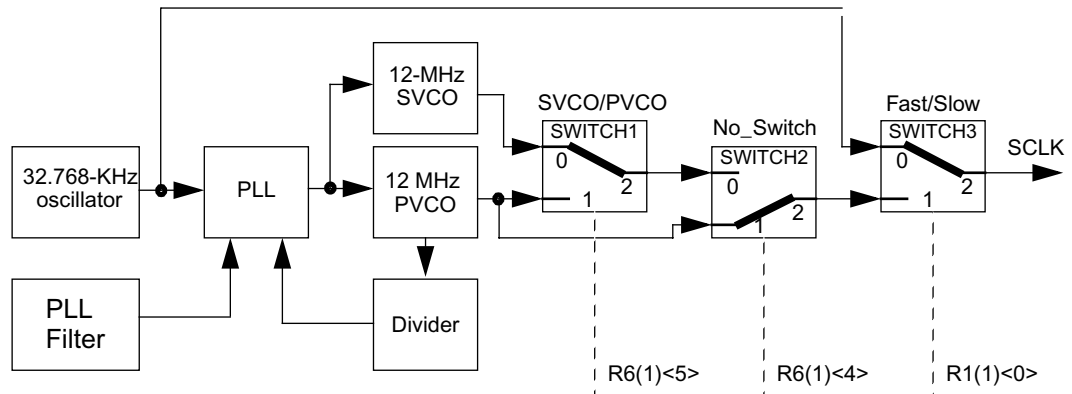

Figure 8 Clock Switching Block Diagram (8 -16 MHz)
The clock switch control register R6(1) defines the source of the SCLK for the Z90T366 core. The block diagram in Figure 8 represents the clock switch circuit.